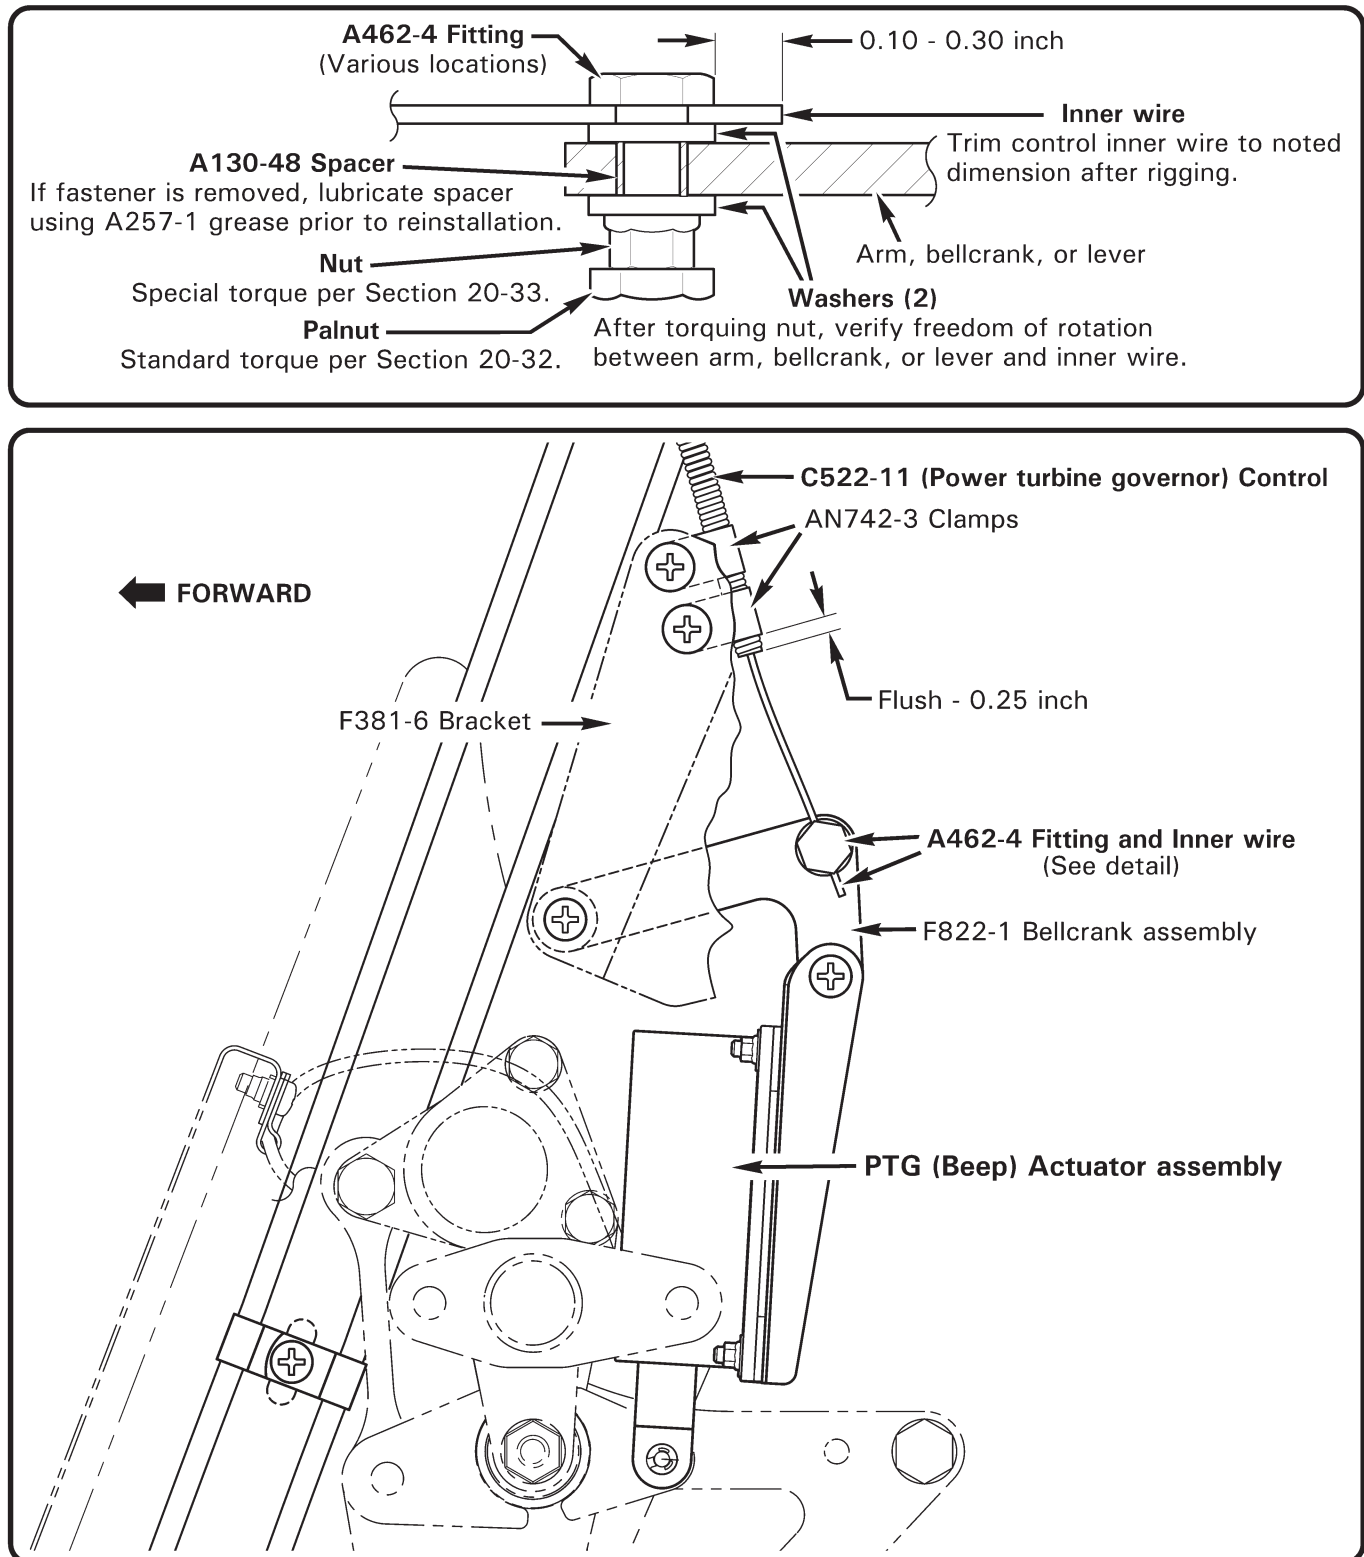

FIGURE 76-3 PTG (BEEP) ACTUATOR ASSEMBLY
5. Refer to detail in Figure 76-3. Rotate collective stick twist grip open. Position inner wire 0.10-0.30 inch beyond outboard edge of fitting in collective arm, and special torque fitting nut per Section 20-33. Install palnut, standard torque per Section 20-32, & torque stripe per Figure 5-1.
7. Refer to detail in Figure 76-3. Rotate twist grip closed; rotate and hold FCU throttle lever to contact idle stop. Verify sufficient inner wire beyond aft edge of fitting, and special torque fitting nut per Section 20-33.
4. Refer to detail in Figure 76-3. Verify sufficient inner wire beyond aft edge of fitting, and special torque fitting nut per Section 20-33.
3. Refer to Figure 76-3. Remove palnut and loosen nut securing A462-4 fitting and C522-11 (power turbine governor) control inner wire to F822-1 bellcrank assembly.